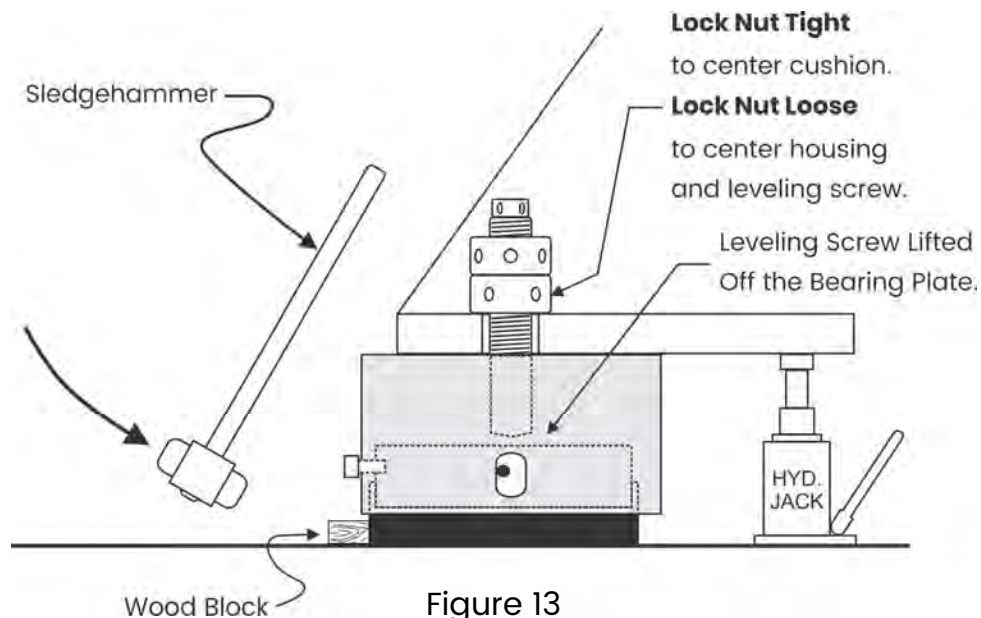

Figure 13
15. Use one of the following methods to re-center the isolator components and/or the isolator leveling screw in the machine foot's mounting hole. Each method requires lifting the machine with the isolator attached as per Figures 13 and 14. Lifting the isolator with the press removes weight from the internal bearing plate and resilient cushion assembly so that it may be shifted into the proper position. In the larger isolator models, the bearing plate and cushion assembly may be so heavy that the entire isolator assembly will need to be raised high enough so that the resilient cushion is lifted from the floor.
- Shift the resilient cushion and bearing plate into its proper position using one of the methods shown in Figure 13 or 14.